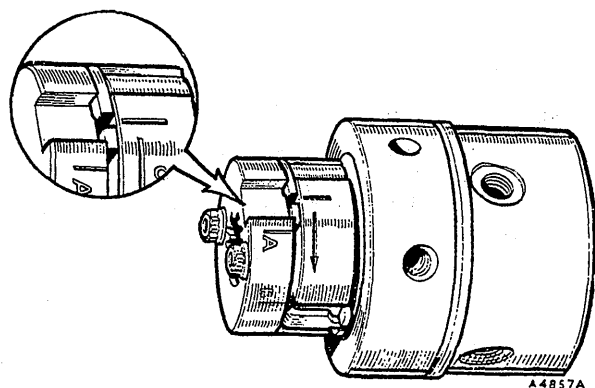
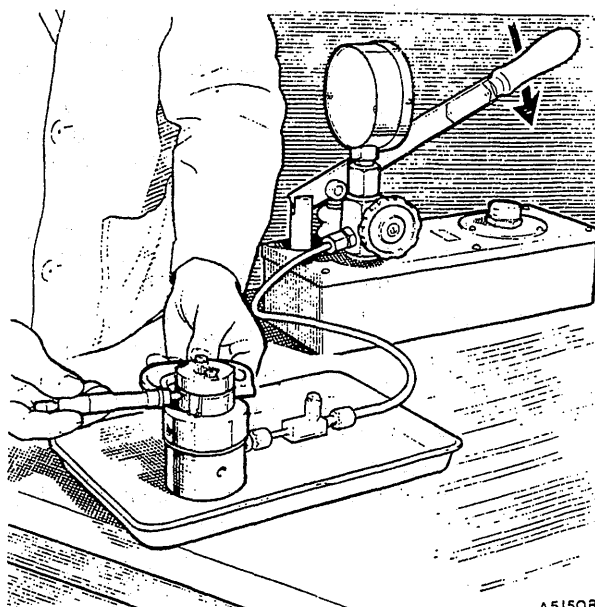

Fig. C.10
Fig. C.12
- (44) Withdraw the rotor from the hydraulic head and fit the top adjusting plate so that the slot in its periphery is in line with the mark on the rotor (see Fig. C.10).
- (45) Fit the drive plate to the rotor with its relieved face next to the top adjusting plate and the slot in the periphery of the drive plate in line with the mark on the rotor (see Fig. C.10). Tighten the drive plate screws lightly and insert the roller and shoe assemblies into their guides in the rotor. Make sure that the contour of the roller shoe ears conforms with the contour of the eccentric slots in the top adjusting plate.
- (46) Fit the bottom adjusting plate, engaging its slots with the lugs on the top adjusting plate, and ensuring that the contour of the eccentric slots matches the contour of the roller shoe ears.
- (47) Insert the rotor assembly into the hydraulic head, then fit and lightly tighten the transfer pump rotor.
- (48) Stand the head and rotor assembly on the bench drive plate uppermost. Fit the relief valve timing adaptor 18G 653 A, preset at 15 atmospheres to high-pressure outlet 'V' on the hydraulic head and connect this assembly to testing machine 18G 109 A (see Fig. C.12).
- (49) Operate the pumping lever of the testing machine and turn the rotor in the normal direction of rotation until the pumping plungers are forced outwards as far as the eccentric slots in the adjusting plates will allow; this is the maximum fuel position. Using tool 18G 656, rotate the adjusting
plates as necessary to set the roller-to-roller dimension at the figure given in 'GENERAL DATA' (see Fig. C.12). Hold the drive plate with tool 18G 641 and tighten the drive plate screws to the torque figure given in 'GENERAL DATA'. Disconnect the adaptor from the hydraulic head.